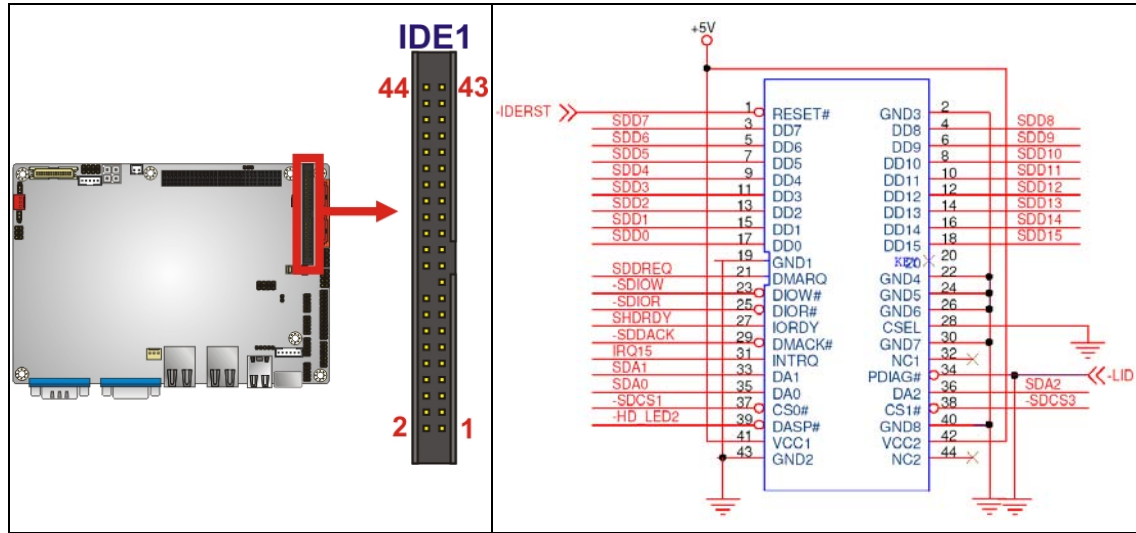

Figure 4-10: Secondary IDE Device Connector Locations
- CN Location:** See **Figure 4-10**